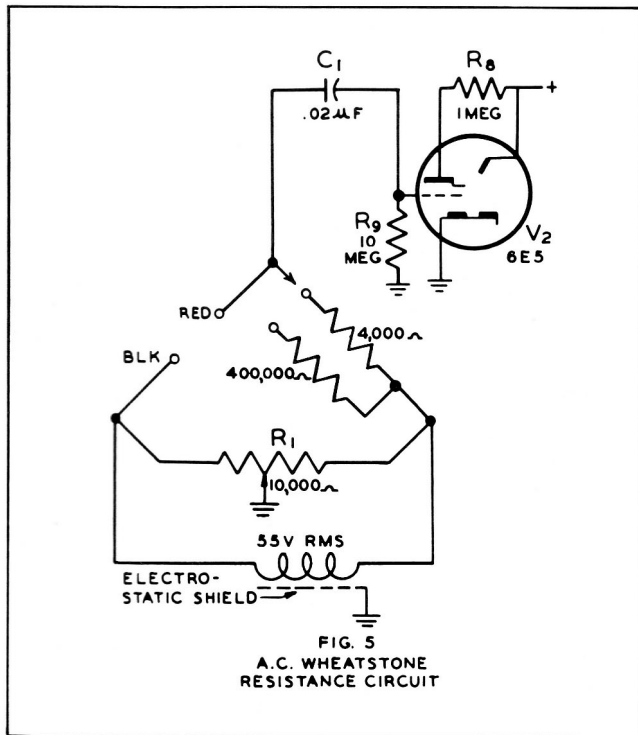

Figure 5. Wheatstone Bridge Circuit Used for Resistance Measurements
a. FUNCTIONAL DESCRIPTION. A conventional AC Wheatstone bridge is used for making resistance measurements. It has two ranges. A simplified schematic diagram is shown in figure 5.